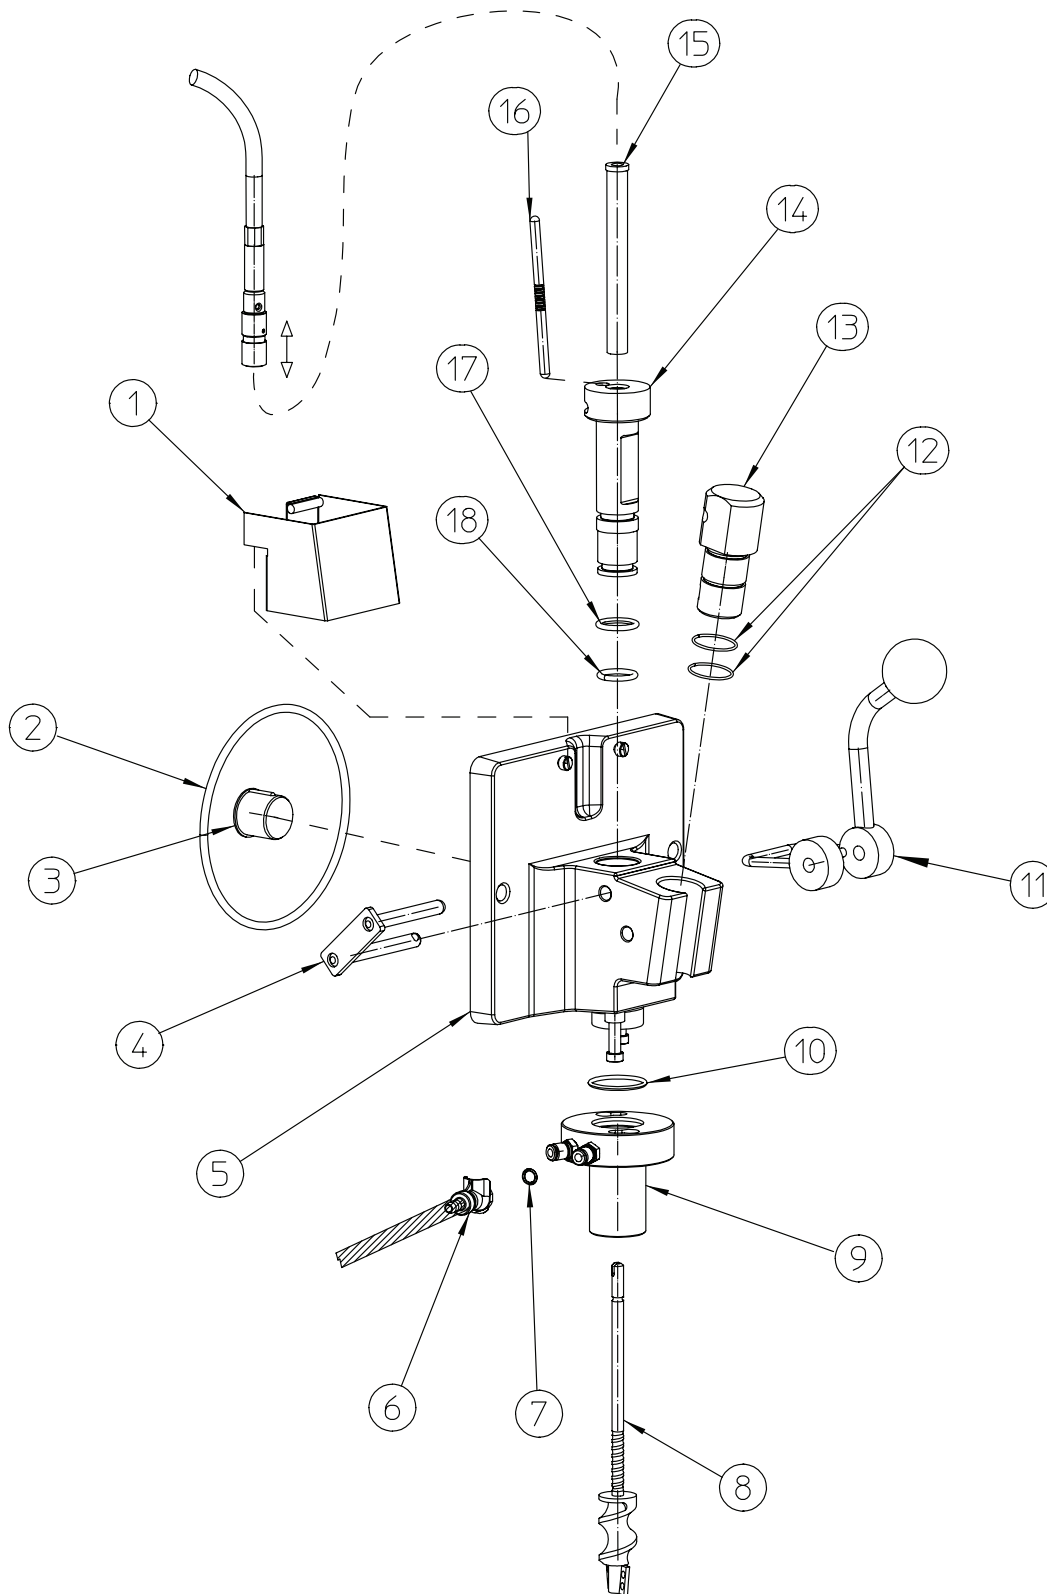
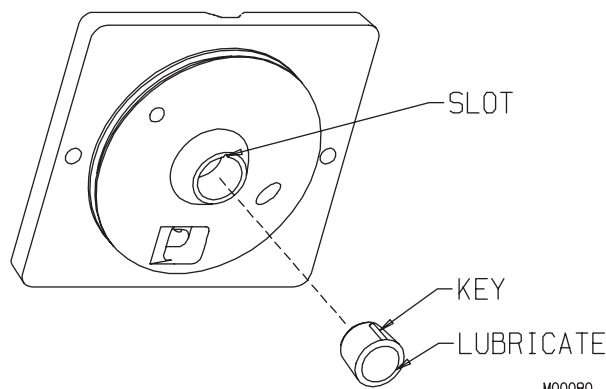

Figure 7-4 Head Assembly
Figure 7-5 Head Bushing
6. See figure 7-4 and o-ring chart in the replacement parts section of this manual. Install the head o-ring (2) into the groove on the back of the dispense head (5),
7. (Install the o-rings (17, 18) on the plunger (14). Lubricate the o-rings.
8. Install the o-rings (12) onto the pivot post (13). Lubricate o-rings lightly. Insert pivot post into the head so the holes are toward the back.
9. Install the mixer shaft bushing (15) into the plunger (14).
10. Install the plunger (14) into the head (5) just past the top o-ring with the slot facing back. Turn slot slightly to the left and hook handle (11) into the slot. With handle in the slot turn the slot to the back.
11. Place the keeper (4) through the handle (11), pivot post (13) and head (5) until it locks in place.
12. Lubricate the inside surface of the beater bearing bushing (3) and place in the head (5) making sure to align bushing key into head slot, as shown in figure 7-5.